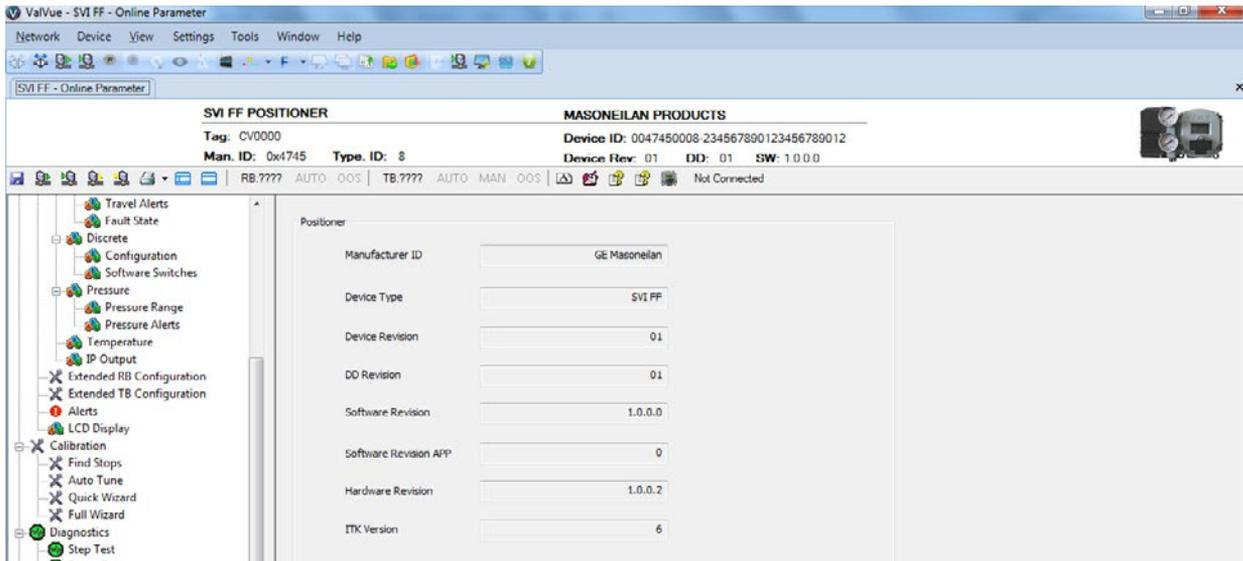

Figure 45 - Positioner Tab
- SVI FF DTM on the *Positioner* tab. The firmware revision is *Software Revision* (Figure 45). Where the first digit, here 1, represents the *DD Revision*.